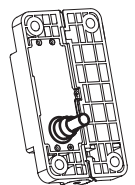

Fig.1
Max 180° (0° and +180° being 0° the condition where the two interconnected surfaces are on the same plane fig.1). The switching angle (see Built-in safety multiple switch functioning and maintenance) is guaranteed from this position.
- The hinge must not be used as a mechanical end-stroke either for door maximum opening or for closed door. For this purpose we recommend using external mechanical stops to prevent the door from opening completely against the hinge body assembled on the frame (fig.1) or exceeding the angle where the two interconnected surfaces are on the same plane (fig.2).